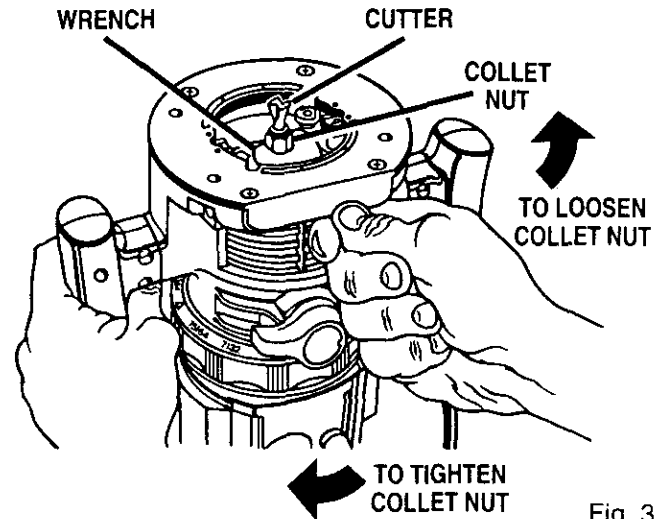

Fig. 3
■ Place your router upside down on table, then turn collet nut with wrench until lock mechanism interlocks. See Figure 3.
- Remove cutters by turning collet nut counter-clockwise enough to allow cutter to slip easily from collet. See Figure 3.
Tighten the collet nut securely by turning clockwise with the wrench provided. See Figure 3.